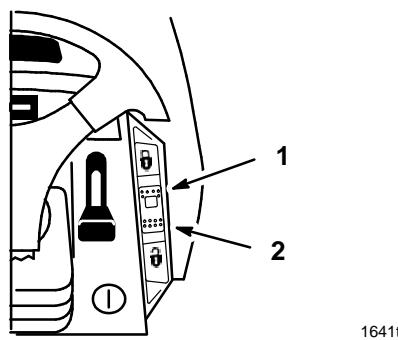

Figure 15
The cruise control is optional on some models. A 3 position: Set-Lock (spring loaded), On and Off-Unlock dash switch (Fig. 15) controls the engagement. Cruise control maintains the traction control position without foot pressure. Cruise control is intended for operation in the forward direction only. Do not use cruise control in reverse.
1. Begin driving tractor: Refer to Driving Forward or Backward, Page 16. While holding your foot steady on the traction control, push the cruise control switch (Fig. 15) to the "SET"–"LOCK" position.
1. While holding your foot steady on the traction control, move the cruise control switch (Fig. 15) to the "UNLOCK"–"OFF" position.